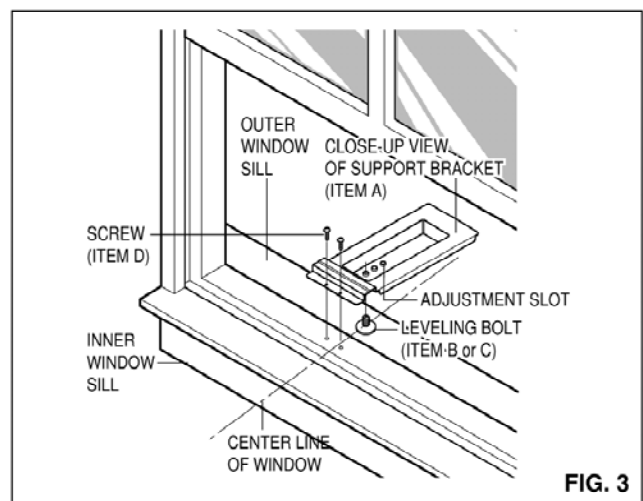

FIG. 3
3. Install support bracket on window. See FIG. 3. Install leveling bolt up through bottom side of support bracket. You can choose a short bolt (ITEM C) or a long one (ITEM B) according to window type. Also, you should select the position of hole on bracket. Position bracket on sill on the center line of window (See FIG. 3). Fasten bracket loosely to sill with screws (ITEM D) provided. Adjust leveling bolt so that the air conditioner will be installed with a very slight tilt (about 1/4") downward toward the outside for proper drainage. Tighten bracket screws.